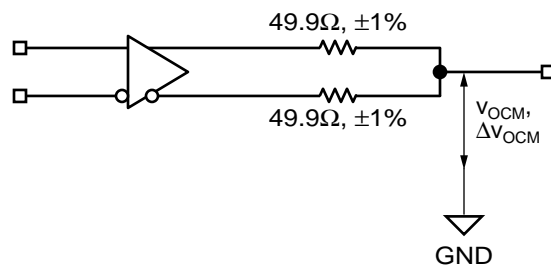

Figure 4. LVDS Common Mode Measurement
**Note 3.** Measured as per Figure 4.